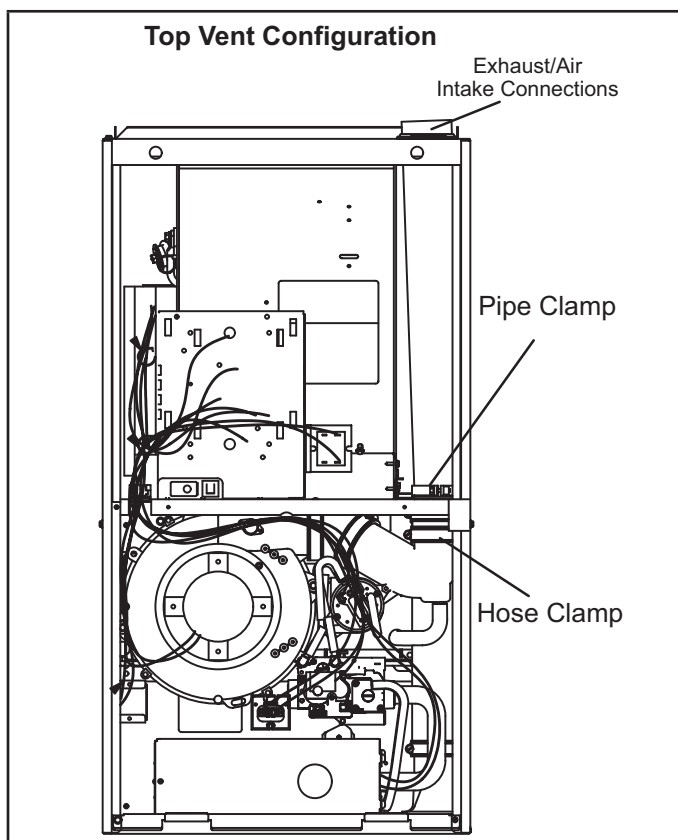
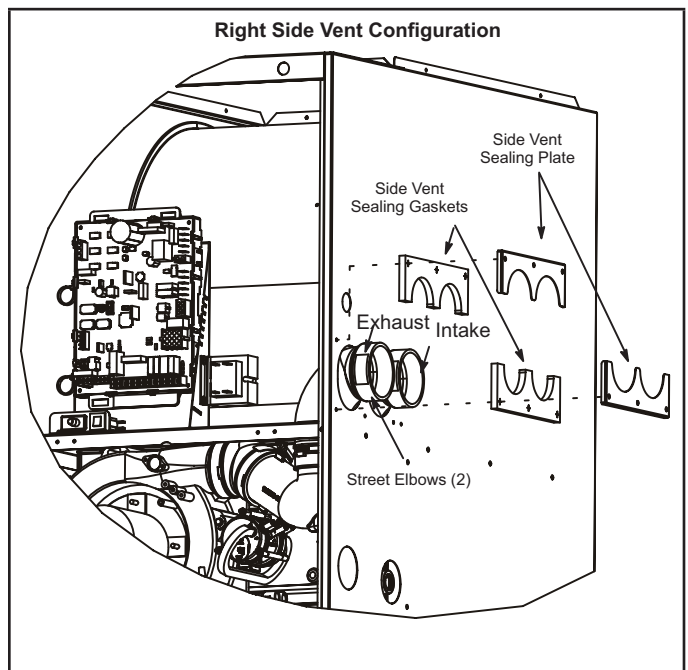

FIGURE 18
FIGURE 20
The EL297DFE is shipped with vent exhaust / air intake connection at the top cap. See FIGURE 18. Using parts provided, the furnace may be field modified to have these connections on the right side of the furnace cabinet. See FIGURE 20 and follow the steps below. For left side venting order kit 87W73.
- 2 - Loosen hose clamps which attach rubber fittings to the white PVC pipes inside the vestibule area. See FIGURE 18.
- 3 - Loosen the clamp which secures the pipes at the blower deck. See FIGURE 18.
- 11 - Peel protective backing from side vent sealing gaskets (2) and apply to side vent sealing plates (2) as shown in FIGURE 20.
- 12 - Install the side vent sealing plates and gaskets on the exterior of the cabinet as shown in FIGURE 20. Secure with six mounting screws (four reused and two provided from bag assembly). Holes are pre-punched in the parts and cabinet, no drilling is required.